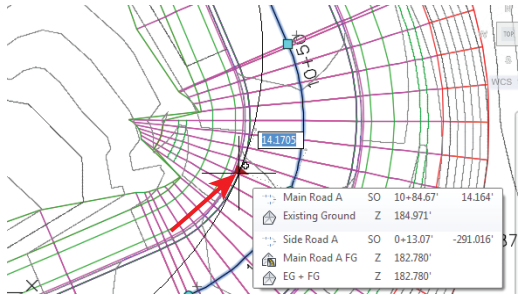

FIGURE 2.7 Grip-editing the alignment
- Click the road centerline to select it and display its grips. Then click the triangular grip and drag it west to a point near the west edge of the road, as shown in Figure 2.7.